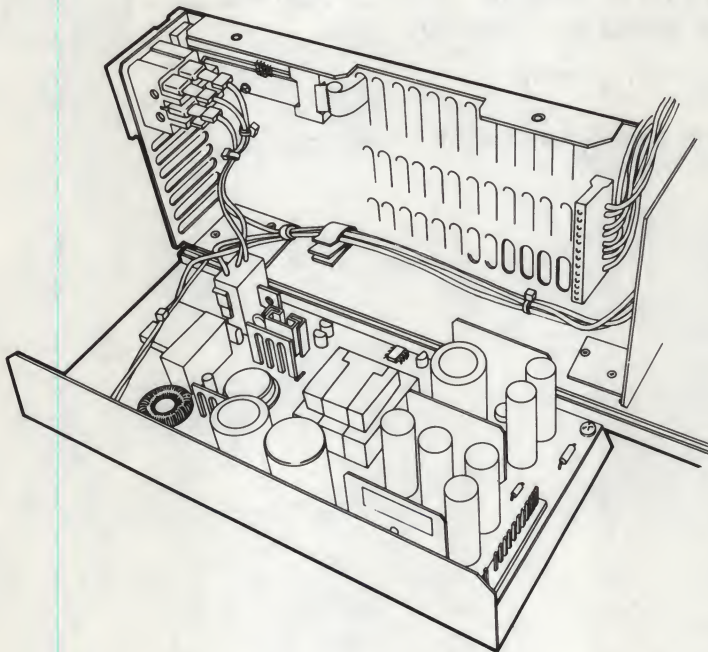

Figure 4-6 Power Supply, Component Side View
4. Disconnect the dc power connector located at the rear of the power supply (Figure 4-6).
6. Disconnect the ac power connector located at the lower front of the power supply (Figure 4-6).